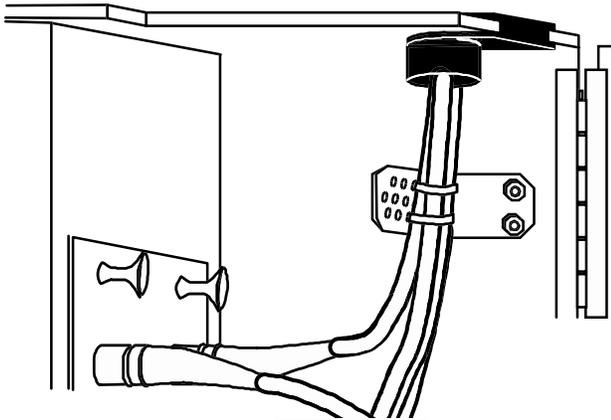

Figure 12
9.3 Secure the jumpers on strain-relief brackets with cable ties (Figure 12).